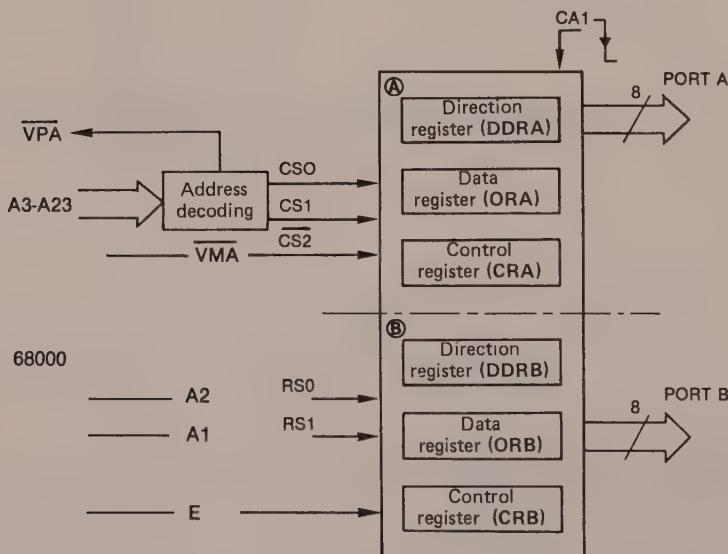

Figure 6.19 Programming: ports A and B on output; interrupt on CA1 authorised; access to ORA and ORB.
Let us assume that we wish to program the PIA 6821 circuit according to the model shown in figure 6.19, assuming that this circuit occupies odd addresses (4) that are programmable via the lower line.